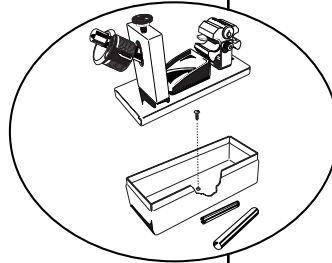

Fig. 1
1. Match correct size slot in multiple plug holder and insert plug with chambers facing up as shown in Fig. 1.